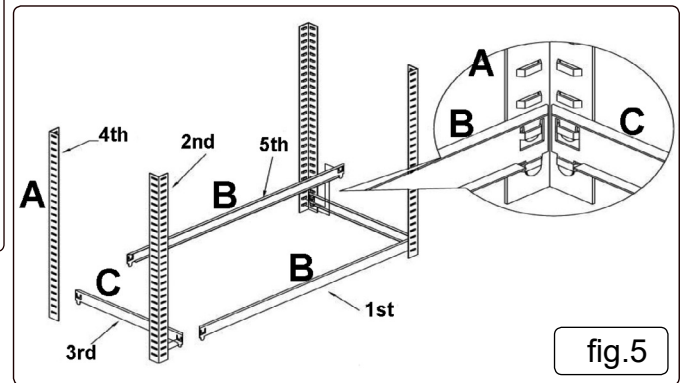

fig.5
- 5.3. See Fig.5. Continue to assemble the complete bottom frame in the order indicated below in Fig.5 starting with a long step beam (B). Ensure that each step beam is facing upwards. Tap the beam at either end, close to each angle post to ensure that the tabs are seated at the bottom of the slots.